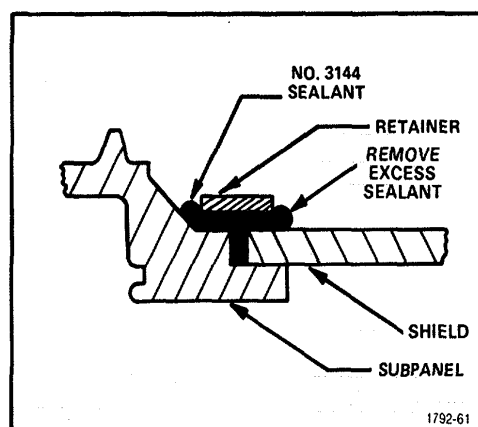

Figure 5-7. Detail of implosion shield sealing.
1. Pressing the retainer should cause some of the sealant to appear outside the retainer area, see Fig. 5-7. Failure of the sealant to appear at any point around the retainer is an indication of inadequate sealing.
2. When performing this step, assure that the shield makes flush contact with the subpanel, see Fig. 5-7.